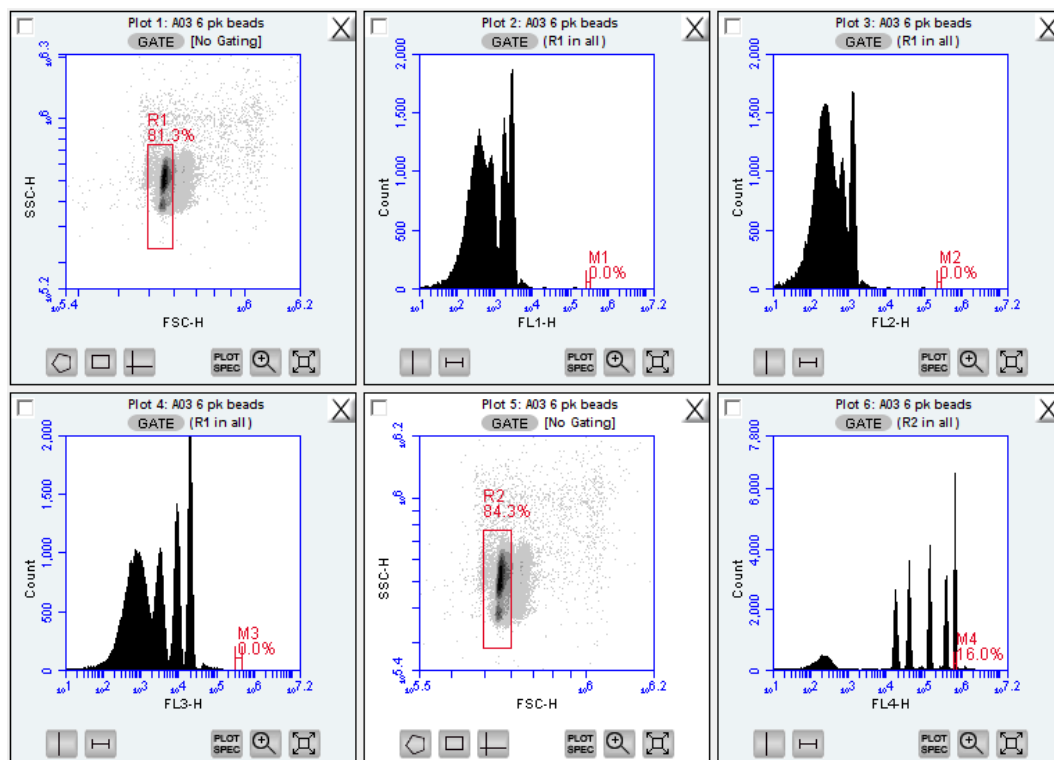

Figure 3-14. 6-Peak Validation Bead Data
7. Adjust the pre-drawn region R2 in the 6-peak scatter plot FSC-H vs. SSC-H to encompass the main population (similar to the procedure for the 8-peak beads). This population should look like an exclamation point. The R2 region should encompass the entire exclamation point (Figure 3-14).
9. Measure the CV of the top (brightest, far right) peak by adjusting the marker in the FL4-H plot so that it is placed tightly around the peak. See the plots in Figure 3-14 for an example of good 6-peak bead data. Look for the following: